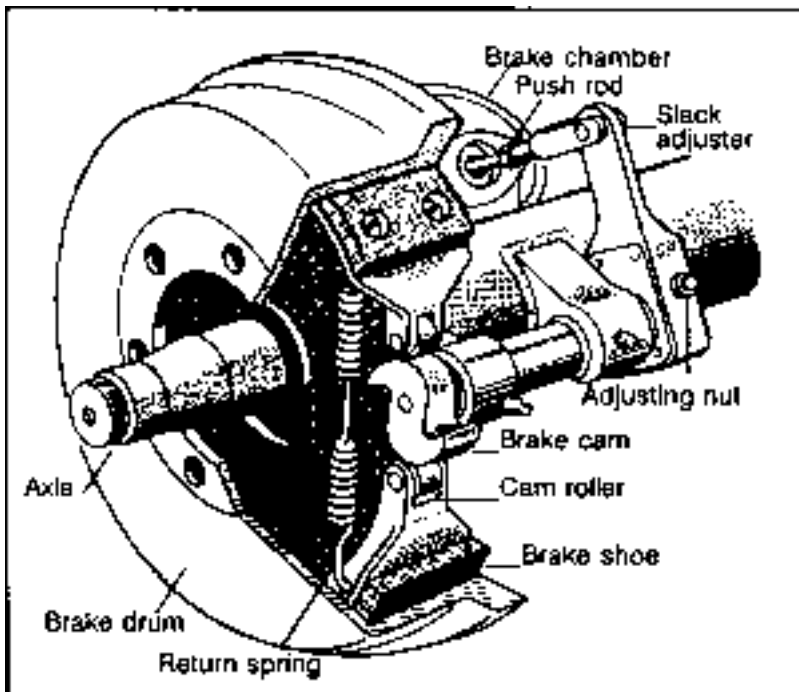

Figure 5-2 S-cam Air Brake
Foundation brakes are used at each wheel. The most common type is the S-cam drum brake, shown in Figure 5-2. The parts of the brake are discussed below:
**S-Cam Brakes.** When you push the brake pedal, air is let into each brake chamber (see Figure 5-2). Air pressure pushes the rod out, moving the slack adjuster, thus twisting the brake cam shaft. This turns the S-cam (so called because it is shaped like the letter "S"). The S-cam forces the brake shoes away from one another and presses them against the inside of the brake drum. When you release the brake pedal, the S-cam rotates back and a spring pulls the brake shoes away from the drum, letting the wheels roll freely again.